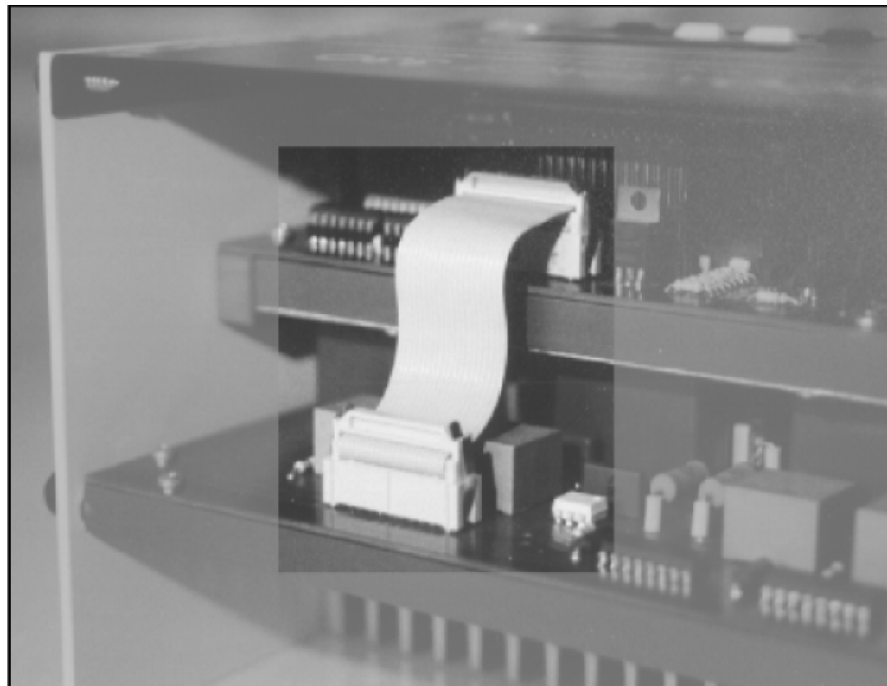

Figure 3.8
- ☑ Before swinging down the board unit, carefully remove the ribbon cable connector from the power section (see Figure 3.8) !
- ☑ Replacing the controller board: This is simplified by the plug-on cable connector (see Figure 3.8), which represents the only connection to the power section. When you replace the controller board, check for correct mains voltage, control voltage and tacho input configuration (code 330/D or 330/A) !